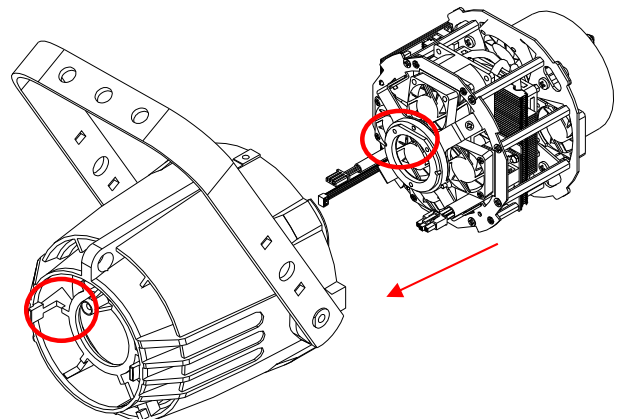

Fig.3
7. Accommodate the HPLED in the Source4 body. Ensure the correct inward direction is followed as remarked by the 2-red-round ring references. Make also sure to follow the red arrow direction as shown in figure 3. During such operation make sure that the 3 connecting cables (i.e. power cable, DMX cable and display cable) are not squeezed, while being lead through loop-holes during reassembling of the unit.